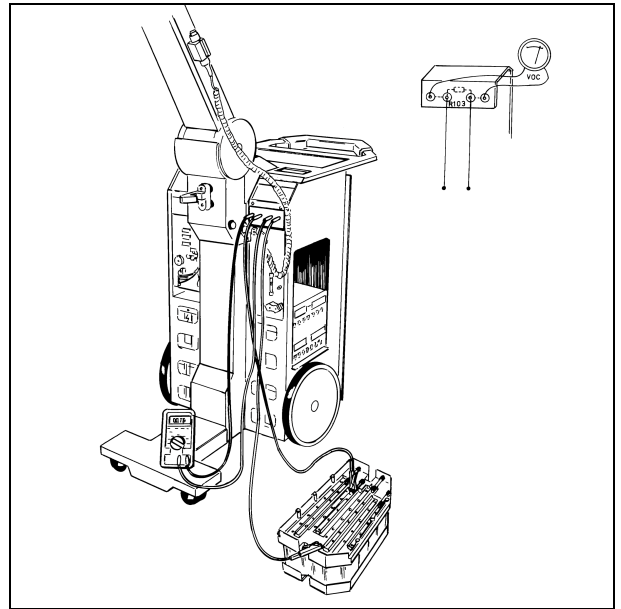

Fig. 8
- Measure the voltage in all capacitor series and check that the voltage level is the same as on the main bar <10 V DC. If a series has a different voltage from the rest, the fuse may possibly have blown. Discharge that series with R103 (Fig. 8).